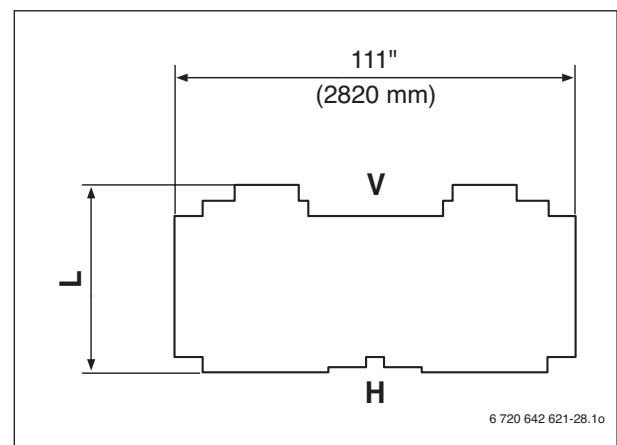

Fig. 34 Thermal insulation
- ▶ The thermal insulation provided corresponds to the boiler size (Tab. 11). The thermal insulation must be arranged on the boiler block as shown in Fig. 34.